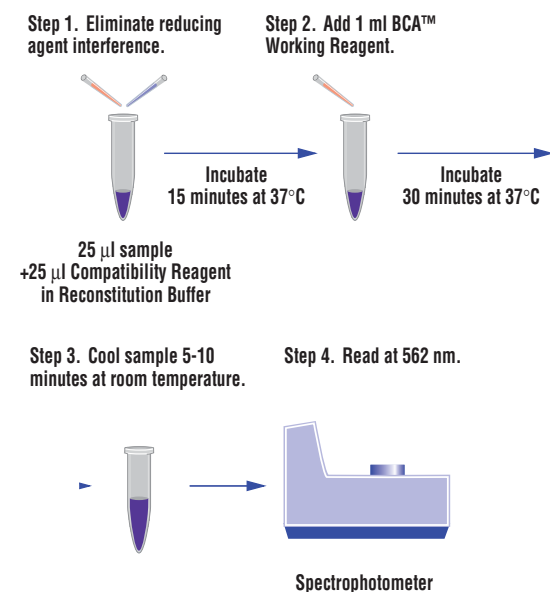

Figure 2. BCA™ Protein Assay – Reducing Agent Compatible protocol.
- Easy-to-use protocol (Figure 2)
The Modified Lowry Protein Assay demonstrates less protein:protein variability than Coomassie-based assays. When comparing the standard curve responses between BSA and BGG, there is less than a 15% variation in the signal generated with these two standard proteins (Figure 2). The Coomassie Protein Assay demonstrates >30% variation in the signal generated between BSA and BGG (Table 2, page 10).
Figure 2. Color response curves obtained with the Modified Lowry Protein Assay Reagent using bovine serum albumin (BSA) and bovine gamma globulin (BGG). The standard tube protocol was performed and the color was measured at 750 nm.